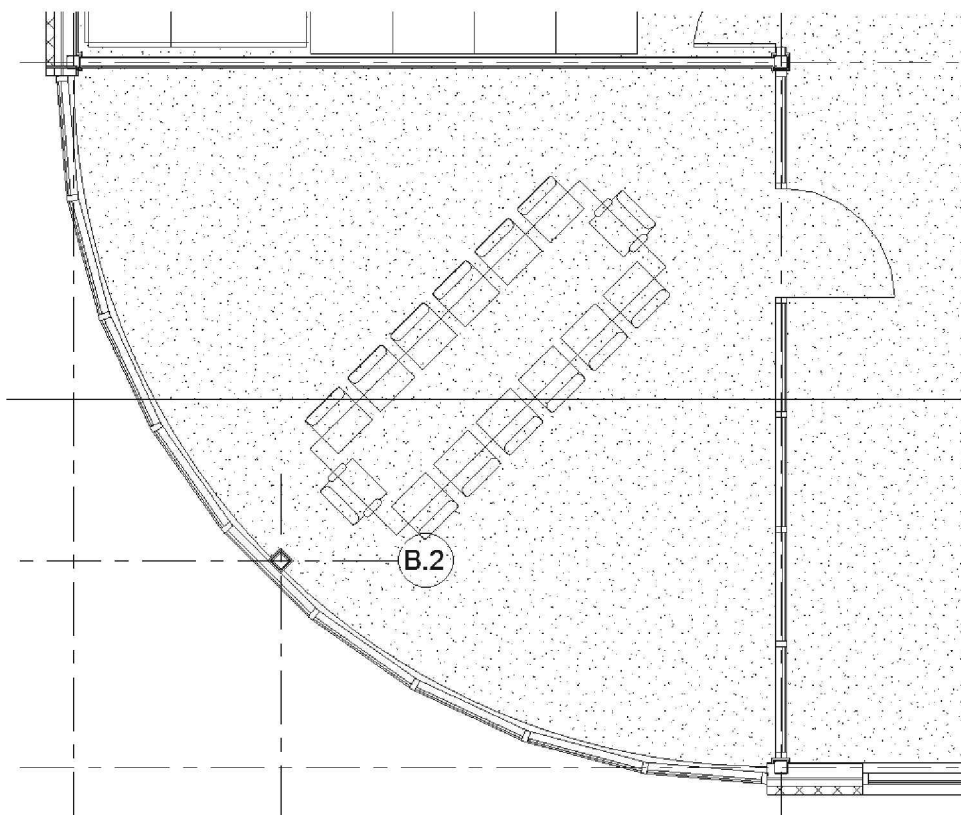

FIGURE 11-4.11 Door added to Curtain wall
44. Add a door as shown in Figure 11-4.11 following techniques already covered.